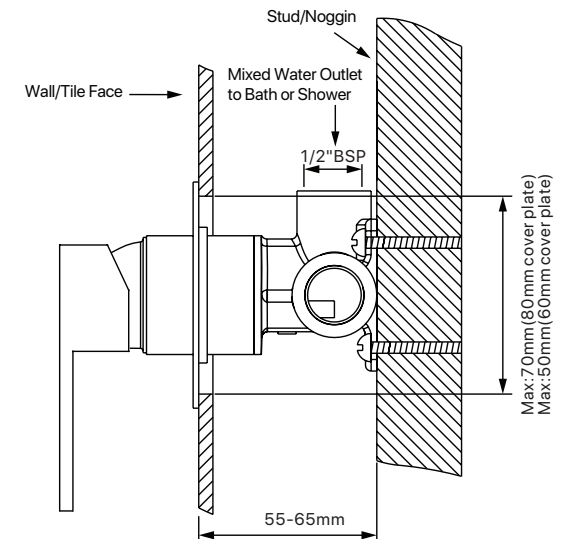

Fig. 2 - Installed Mixer
- Secure Mixer Body to mounting with 4 x screws using the 4 x holes in base plate, as shown in Fig. 2
- LEAVE PROTECTIVE PLASTIC SLEEVE (10) OVER MIXER BODY CARTRIDGE (8) DURING WATER-PROOFING/SHEETING/TILING. ONLY TO BE REMOVED WHEN INSTALLING TRIM KIT (STEP 2)
- Remove protective plastic sleeve (10)
- Gently slide Cartridge Cover (7) onto Mixer Body Cartridge (8)
- Screw Dome Nut (6) onto Threaded Nut (9)
- Slide Cover Plate (5) over the Cartridge Cover (7), push until the Cover Plate sits flush with wall (as shown in Fig. 2)
- ▶ **Lever Handle:** Push Lever Handle (1) into position on Mixer Body Cartridge (8), ensuring it is fully pushed on then tighten Lever Handle (1) into position with Grub Screw (2) using Allen Key (4) provided, lastly fit Grub Screw Cap (3) into position
- ▶ **Pin Lever Handle:** Remove Pin Lever (11) by unscrewing anti-clockwise, push Handle (12) into position on Mixer Body Cartridge (8), ensuring it is fully pushed on, then screw Grub Screw (13) into Handle (12) using Allen Key (14) then rescrew Pin Lever on clockwise (no Grub Screw Cap required)